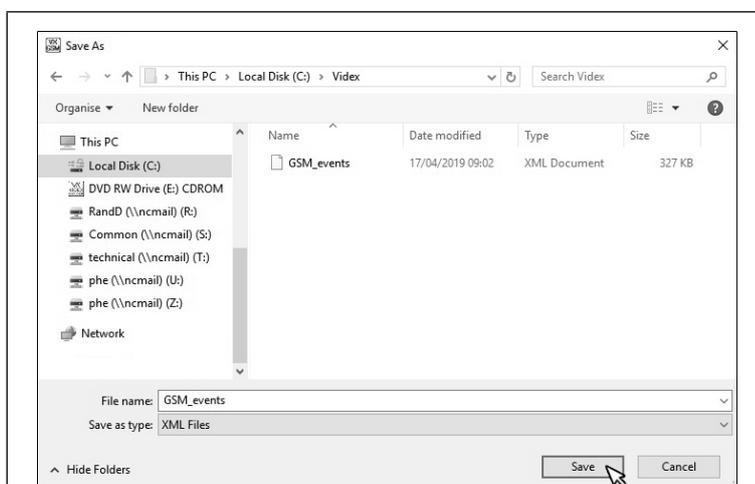

Fig. 108
- The 'Save As' window will appear, as shown in **Fig.108**, select a location of where to save the event log (the file will be saved as an XML document);
- Click the **SAVE** button, as shown in **Fig.108**. To cancel the operation click on the **CANCEL** button;